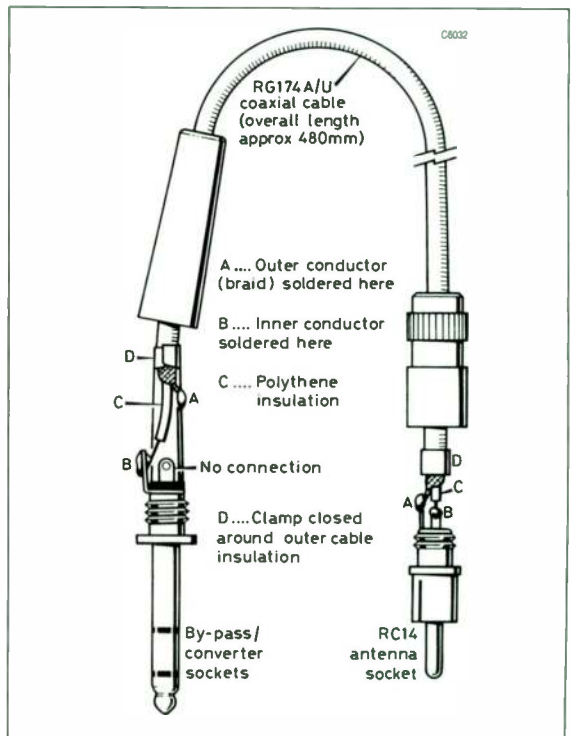

Fig 4.25. Patch lead details
9. The patch lead which is used to couple the converter to the RC14 is shown in Fig 4.25. Be careful when stripping the outer insulation from the coaxial cable because it is easy to cut through the braid as well.